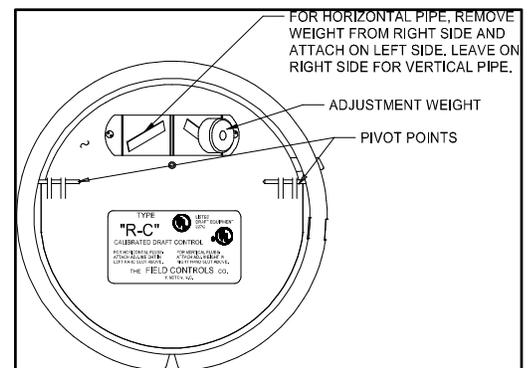

Figure 12
**VERTICAL FLUES:** The draft control is shipped for installation in a vertical flue. The adjustment weight should be in the right hand slot when you face the control. (See Figure 12)
**HORIZONTAL FLUES:** For horizontal flues, remove the weight from the right hand slot and attach it to the left hand slot as shown in Figure 12.